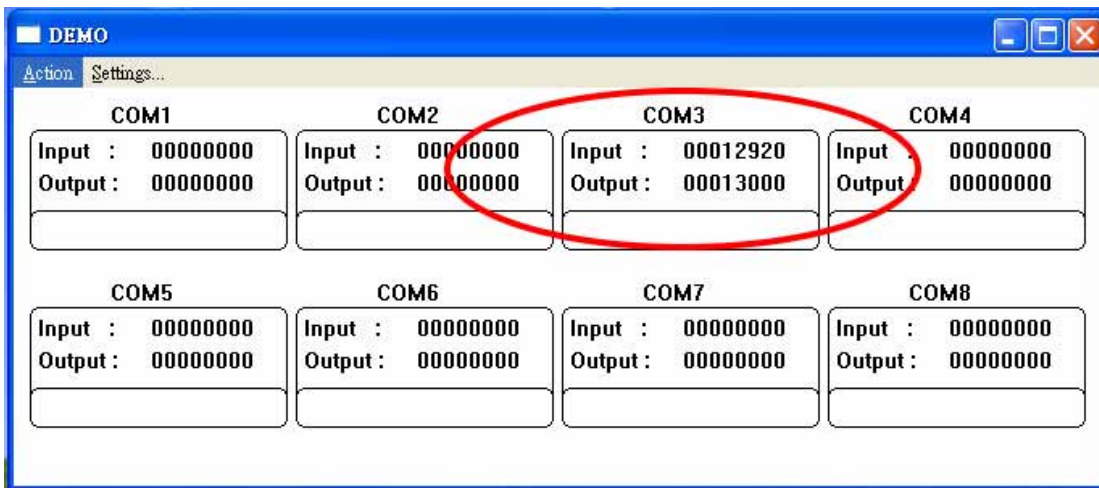

Fig.8
Step4. Click the “OK” the utility will show the input and output status of RS232 (See the Figure 8).